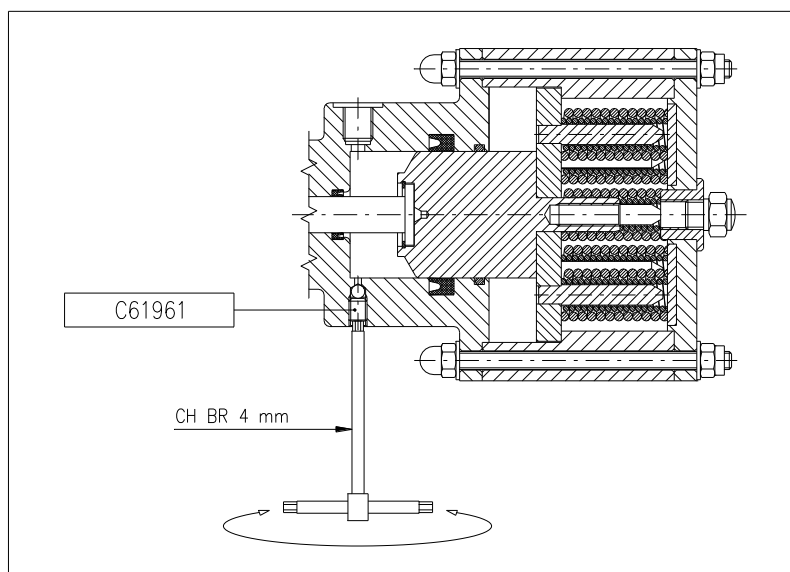

Figure 4
7. **HYDRAULIC BRAKES:** Bleed air out of the oil circuit by loosening the grub screw C61961 with a n. 4 Allen key, until oil begins to come out. When all the air has been bled out tighten the grub screw again (Figure 4).